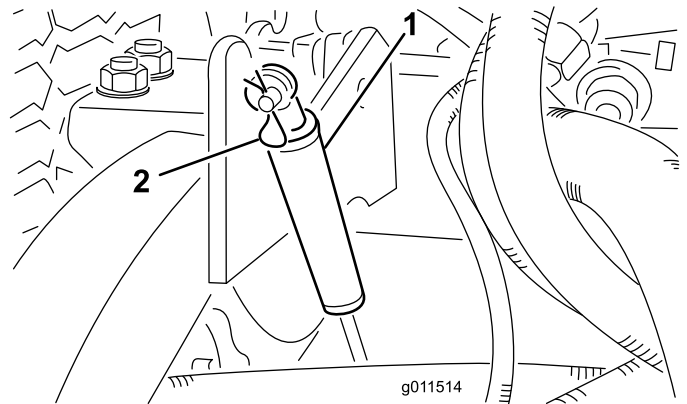

Figure 77
2. Remove the hairpin cotter securing dampers to lift arms (Figure 77). Pivot damper toward deck housing.